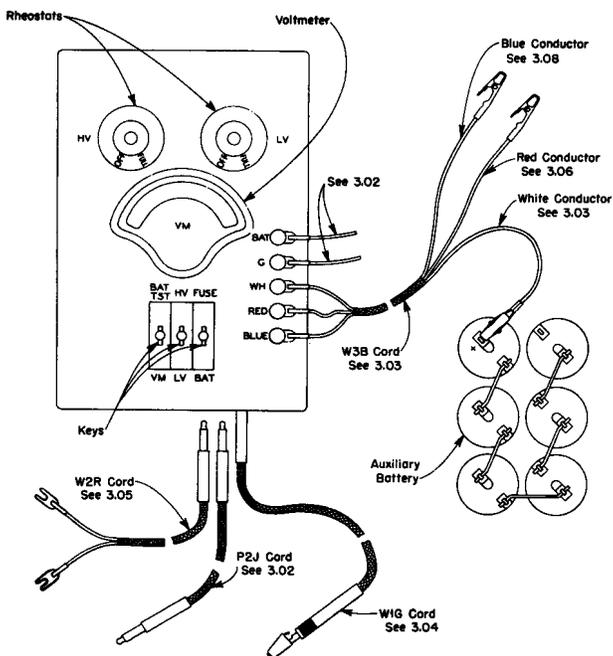

Fig. 1 - Method of Connecting Selector Test Set
3.01 Place all keys of the test set in their normal positions, set the rheostats in their "off" positions and connect the patching cords to the test set in accordance with Fig. 1. In making the connections and tests, observe the points covered in 3.02 to 3.10, inclusive.